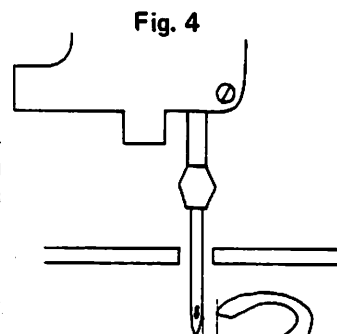

Fig. 4
- 2) Fasten retainer lever (A) in Fig.4 on looper retainer lever. Adjust the clearance between looper and needle using a 3.0 mm bar gauge. Then, fasten screw (A).
- 2) Loosen screw (B) in Fig.4 for retainer eccentric ball.
When the best timing is obtained by turning the pulley, tighten screw (B) in Fig.4.